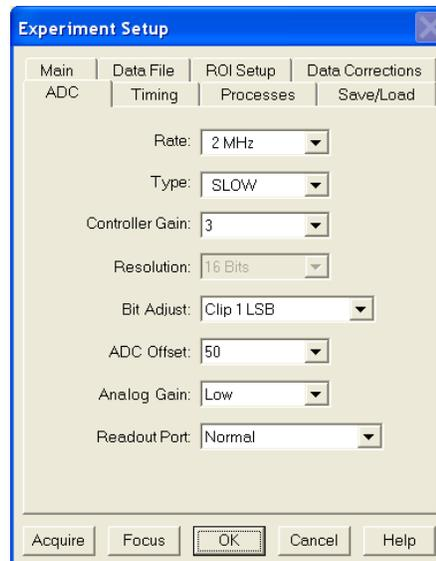

Figure 24. Generic ADC tab
5. On the **ADC** tab (Figure 24), set the parameters as they apply to your particular system. Parameters that might be listed follow: